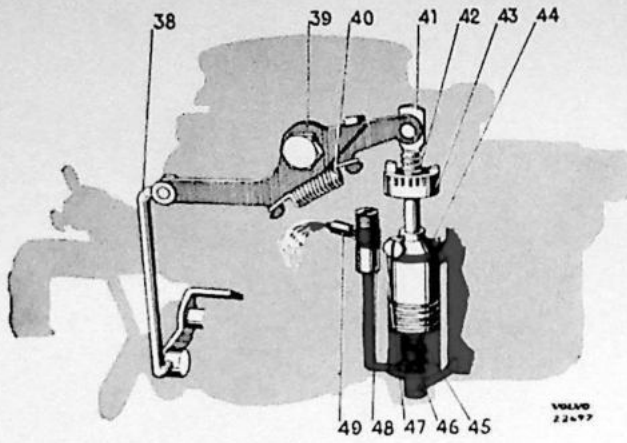

Fig. 14. Acceleration pump.
The pump plunger (44, Fig. 14), is located in a barrel placed beside the float bowl and this plunger is influenced by a jointed lever being depressed. The stroke of the pump plunger can thus easily be varied by turning a washer fitted with a cam (43), whereby the forward part of the lever is limited by a stop, higher or lower depending on the position of the washer. The final part of the rear lever movement is absorbed by the spring (40) at the joint.